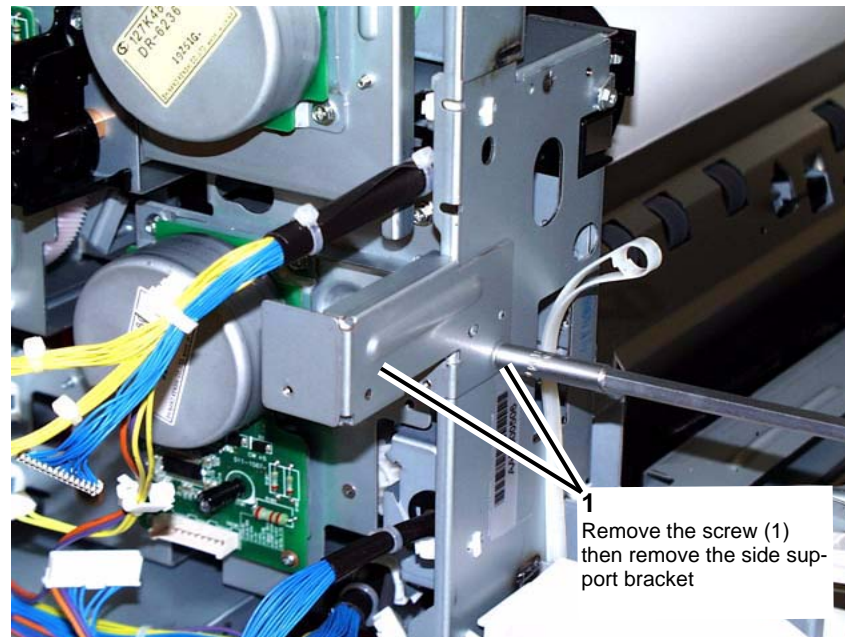

Figure 8 Removing the side support bracket
11. Remove the side support bracket. (Figure 8)